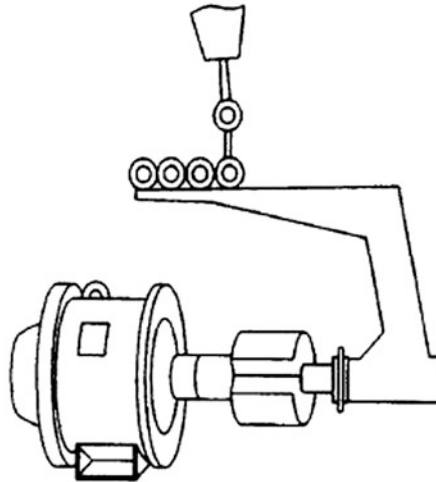

Figure 3-25. Typical rotor assembly lifting device.
- Attach a suitable rotor lifting device (fig. 3-25) to the drive hub and overhead hoist.
- Attach a suitable rotor lifting device to the drive hub and overhead hoist as shown in figure 3-25.